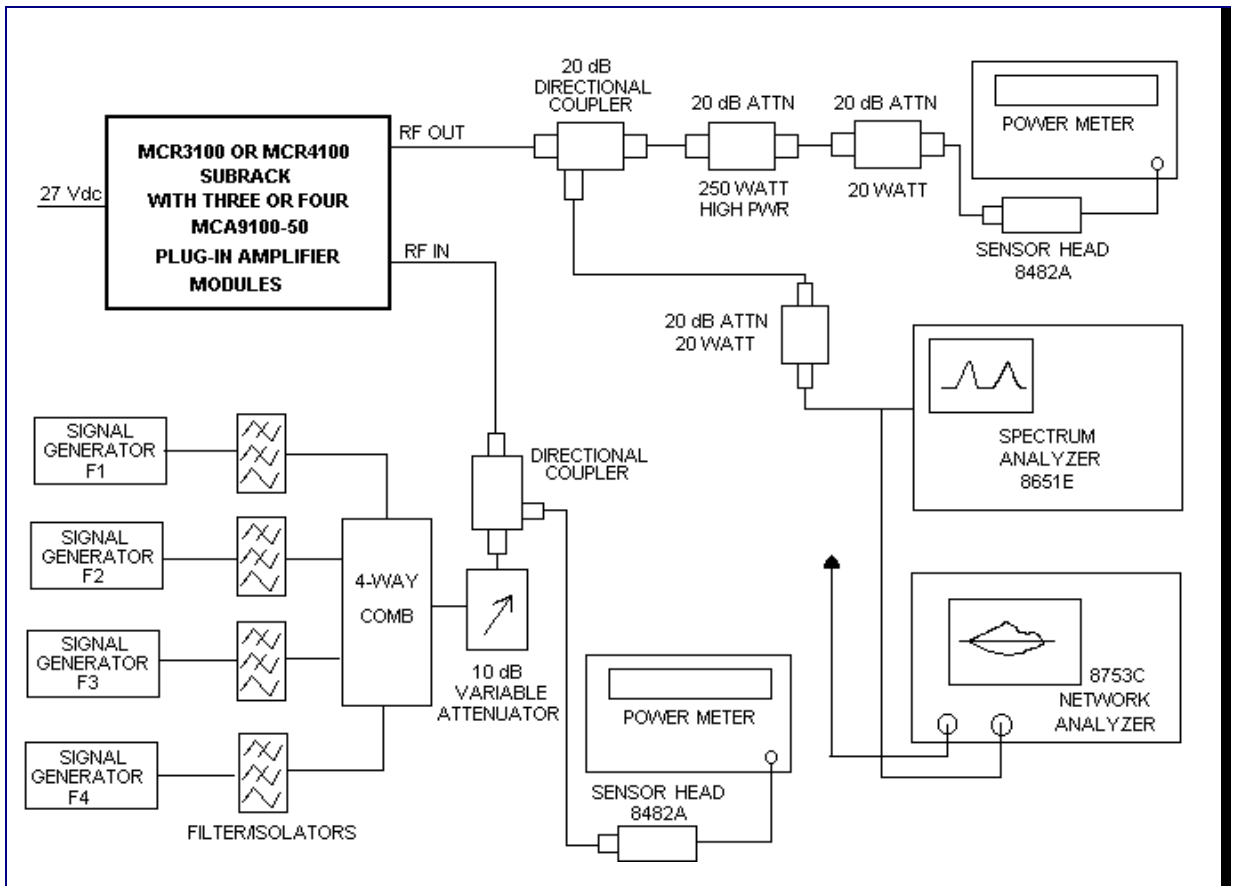

Figure 5-1. NTGY81AA Amplifier Test Setup Diagram
Performance testing should be conducted every 12 months to ensure that the amplifier system meets the operational specifications listed in table 5-3. Also verify system performance after any amplifier module is replaced in the field. The test equipment required to perform the testing is listed in table 5-2, and the test setup is shown in figure 5-1.
1. Connect test equipment as shown in figure 5-1.